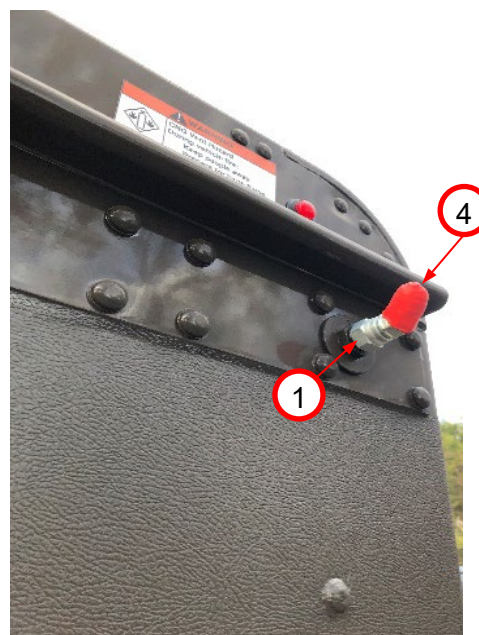

Figure 3:
5. Verify PRD vent cap (4) is installed on PRD vent outlet fitting (1). *Figure 3*